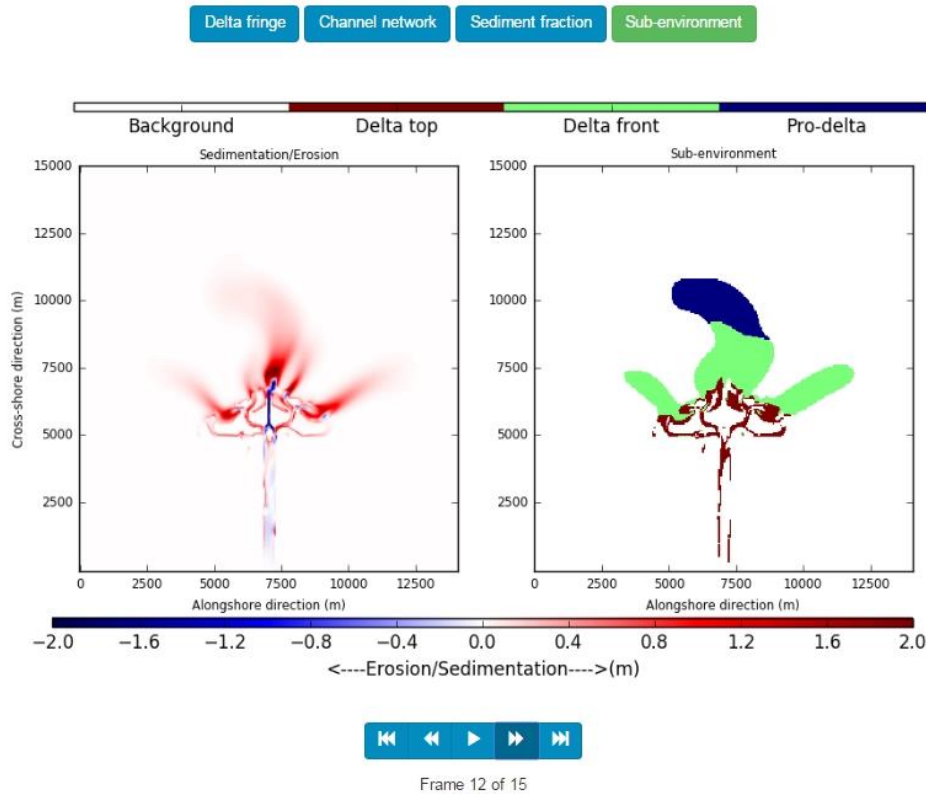

Figure 3.30 Example of sub-environment output *[needs to be updated with newest settings]*
4. Map view of the erosion and sedimentation areas and delta sub-environments: pro-delta, delta-front and delta-top (Figure 3.30).